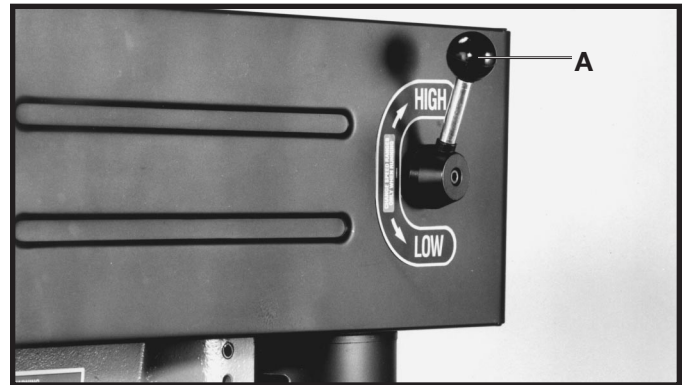

Fig. 29
The speed range control lever (A) Fig. 29, **MUST NOT** be moved except when the motor is running. When the handle (A) is in the up “**HIGH**” position, the speed range is 500 to 3200 RPM; and when the handle (A) is in the “**LOW**” position, the speed range is 150 and 1100 RPM.